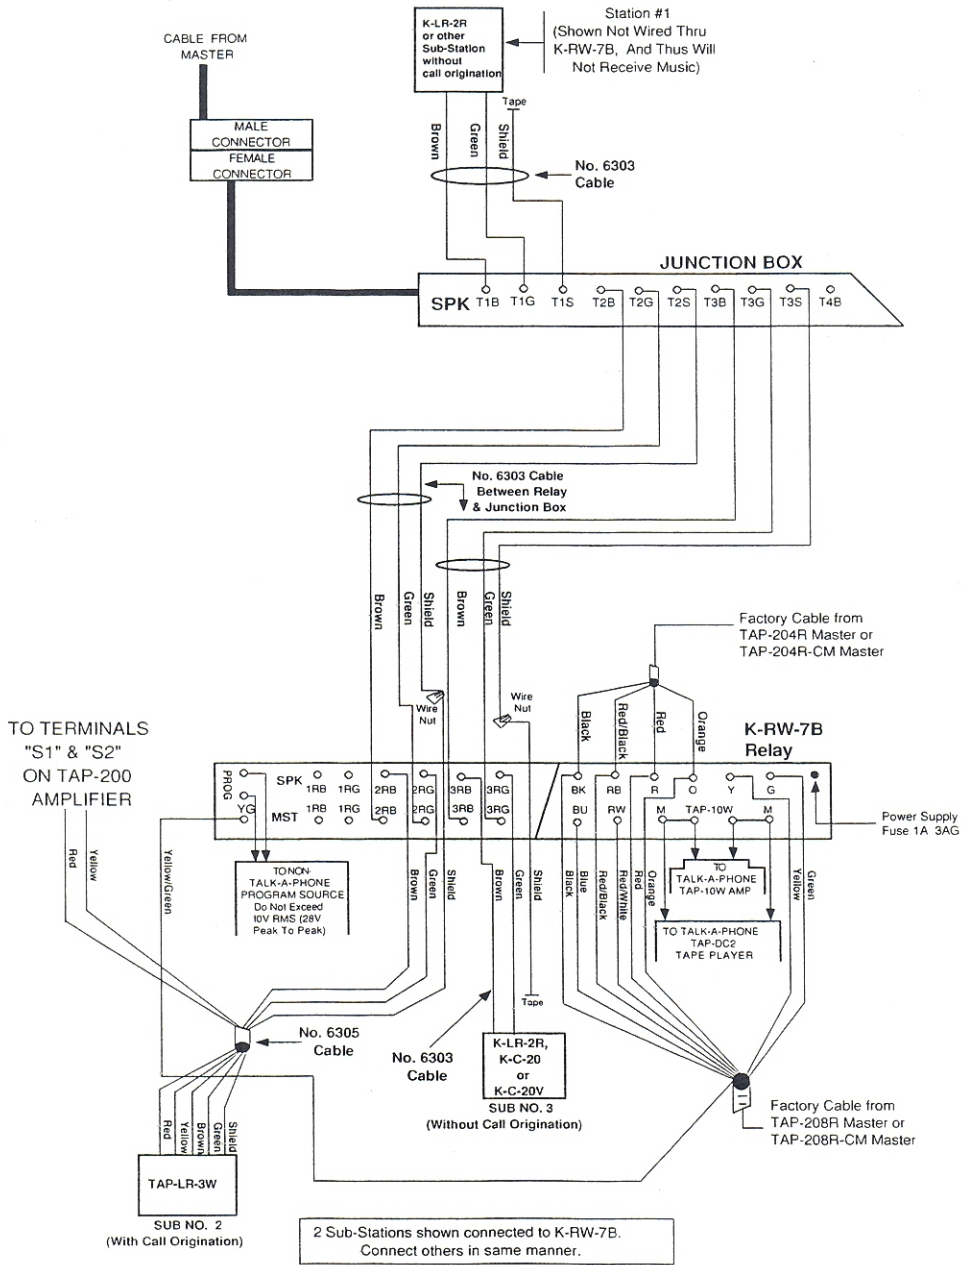
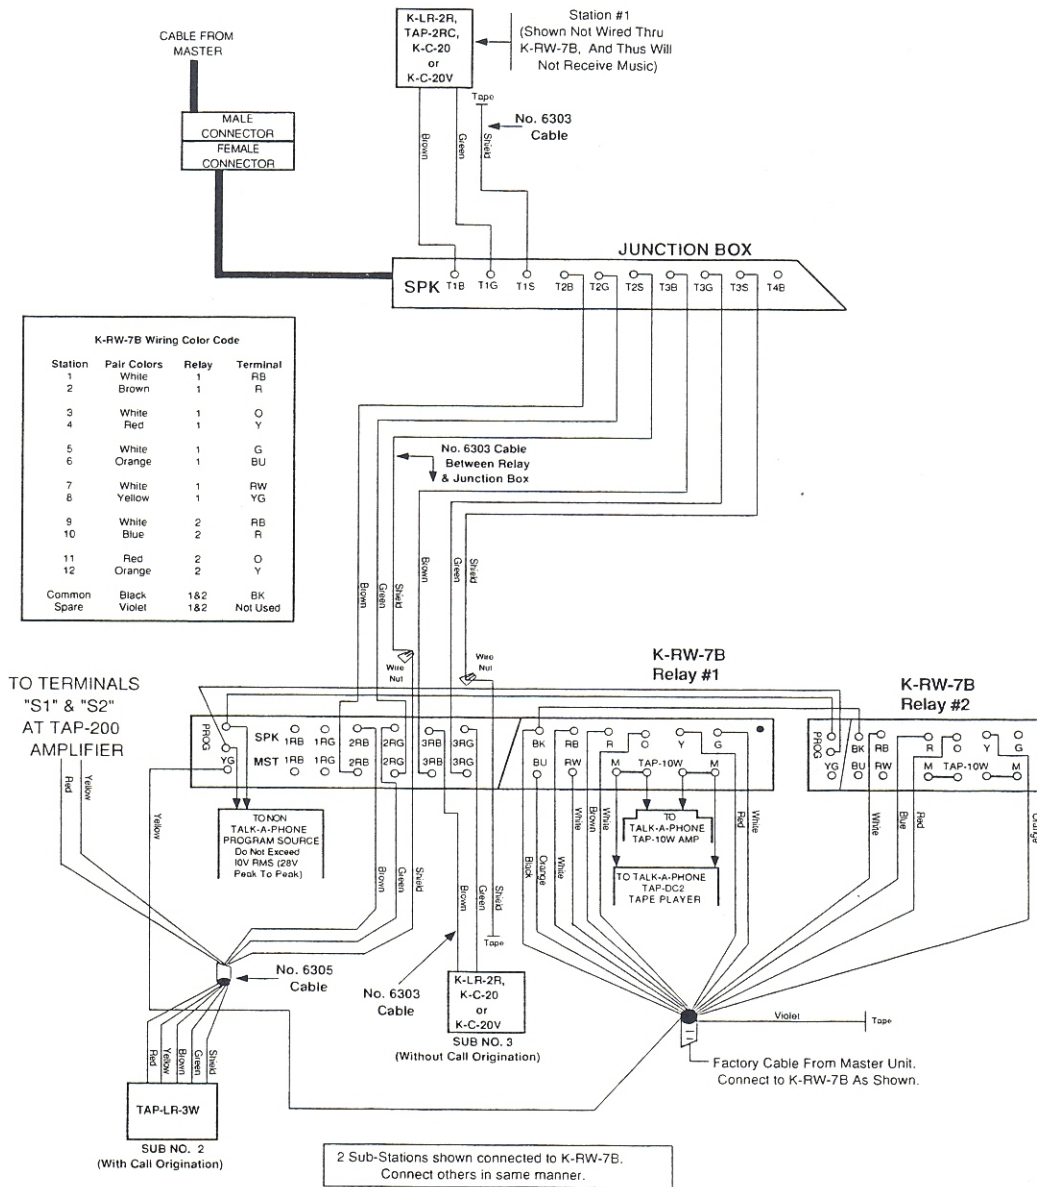

Figure 7. Wire Connections for K-RW-7B Relay with TAP-204-R-CM and TAP-208R-CM Masters
Figure 8. Wire Connections for K-RW-7B with TAP-212R-CM Master
1. Locate the K-RW-7B(s) in close proximity to the Master. Cables from the Sub-Stations that will receive music route through the K-RW-7B(s) (see Figures 7 and 8).
2. Extending from the Master is a cable tagged "use only to connect K-RW-7B Relay for use in a music system". Connect this cable directly to the K-RW-7B Relay as shown in Figure 7 for 4- and 8-channel masters. Connect as shown in Figure 8 for TAP-212R-CM and TAP-212R Masters.